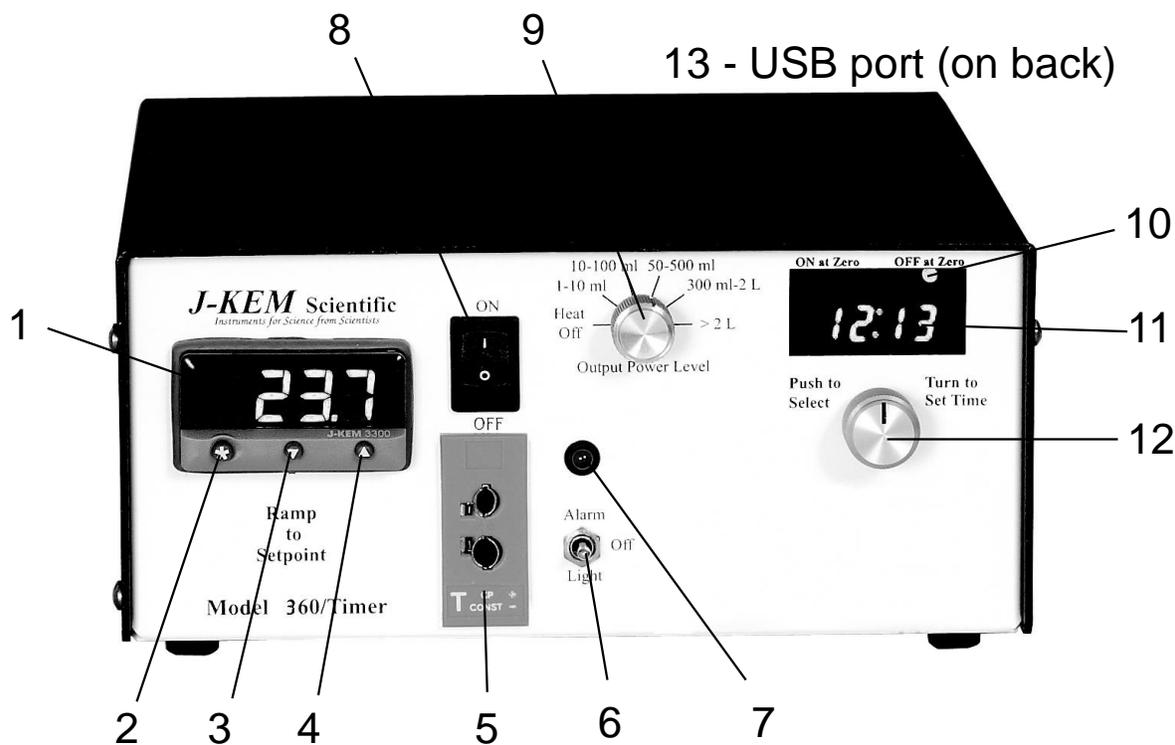

Figure 1
3.3 Temperature Sensor Input. Every controller is fitted with a specific *type* of thermocouple input and can only be used with a thermocouple of the same type. For the correct temperature to be displayed, the thermocouple type must match the receptacle type on the front of the controller (Figure 1; #5). All thermocouples are color coded to show their type (Blue = type T; Yellow = type K; Black = type J). The color of the thermocouple plug must match the color of the receptacle on the front of the controller.